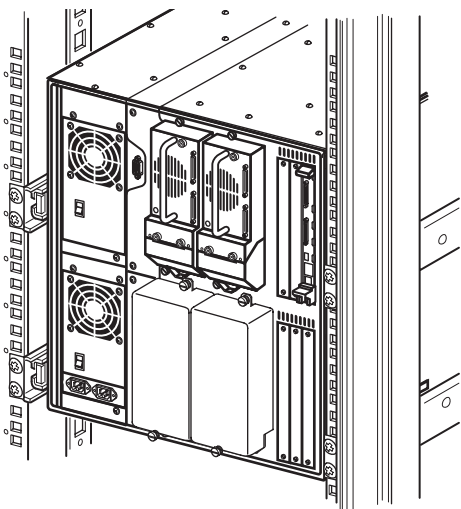

Figure 6 5U library installation (10000 rack enclosure shown)
1. Install two 5U libraries, as shown in Figure 6, following the instructions in the *HP StorageWorks MSL6000 Series Tape Library User Guide*.